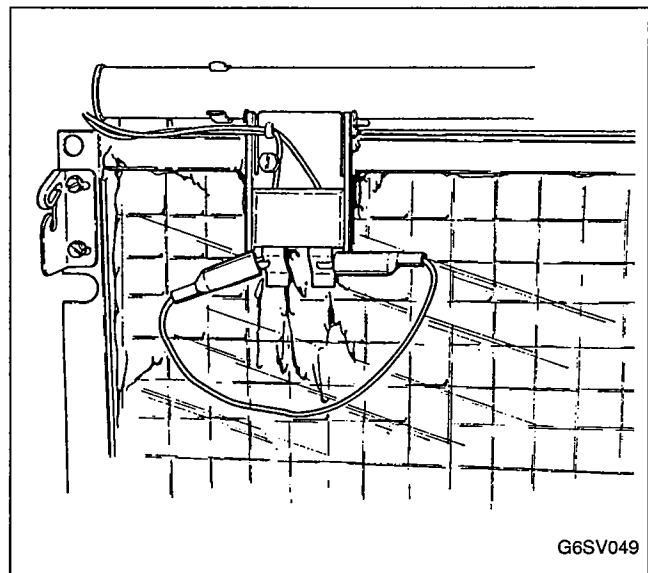

FIGURE 49. JUMPER WIRE CONNECTED TO PROBES
Step 2: Clip the leads of the jumper wire to the ice thickness control probe, Figure 49.